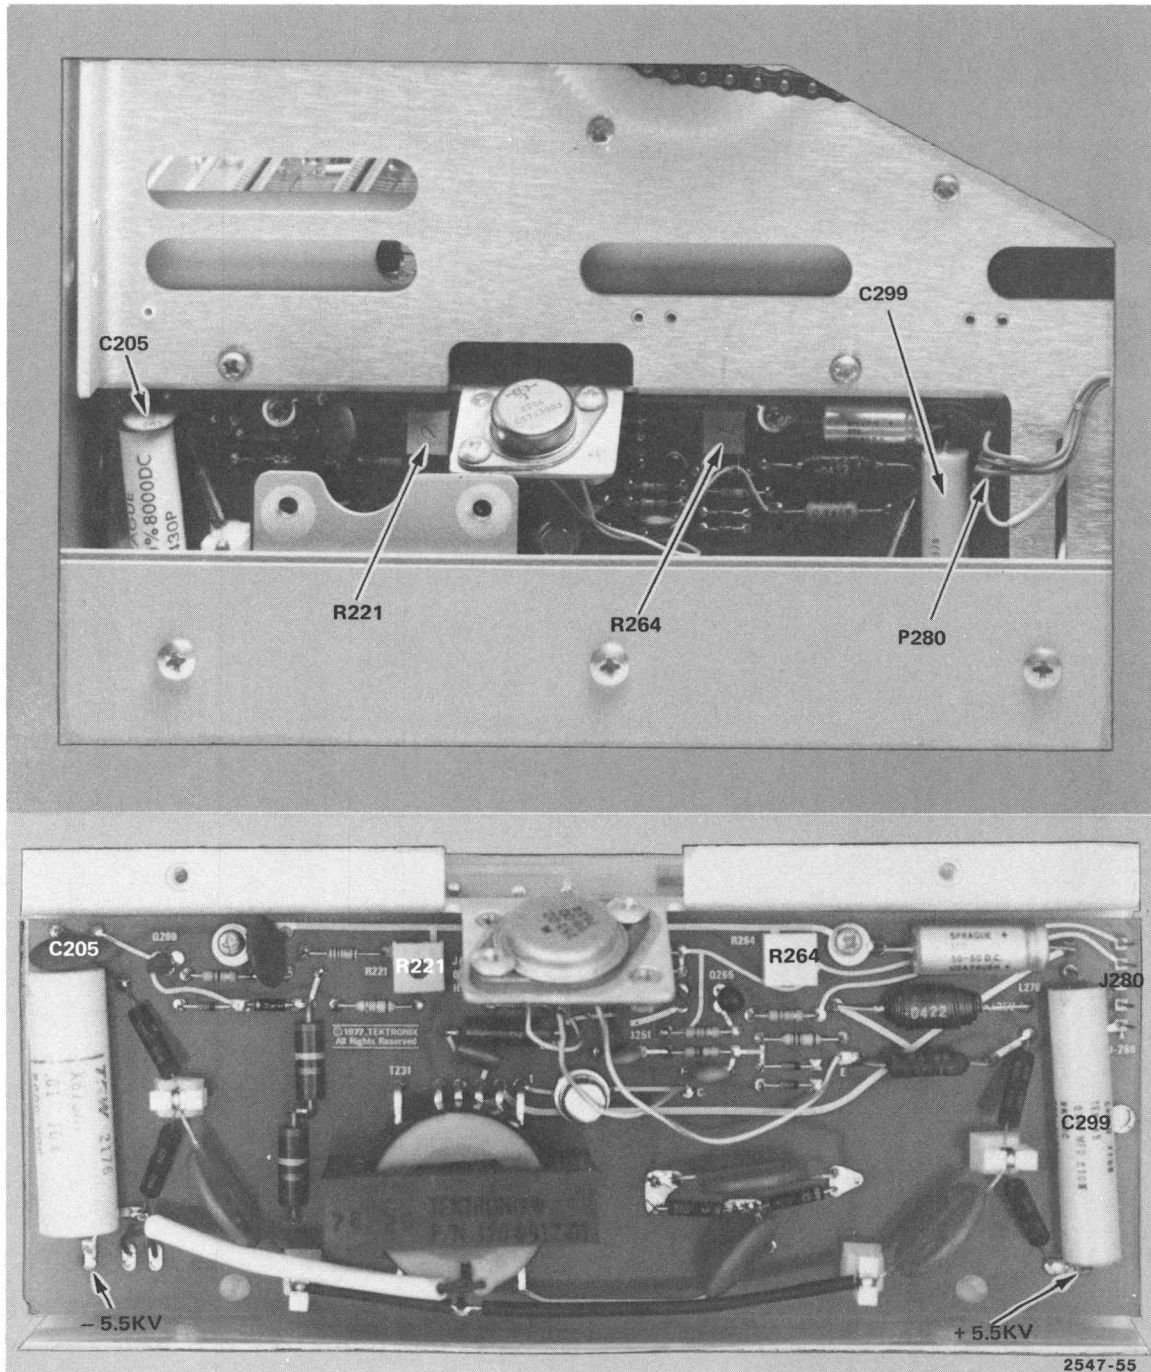

Figure 4-26. High Voltage Test Point and Intensity Locations.
- c. ADJUST—the -5.5 kV supply and CHECK the $+5.5$ kV supply (Figure 4-26).
- 5) ADJUST—R221, on the High Voltage Oscillator board (Figure 4-26), so that a faint trace is visible on the face of the crt.